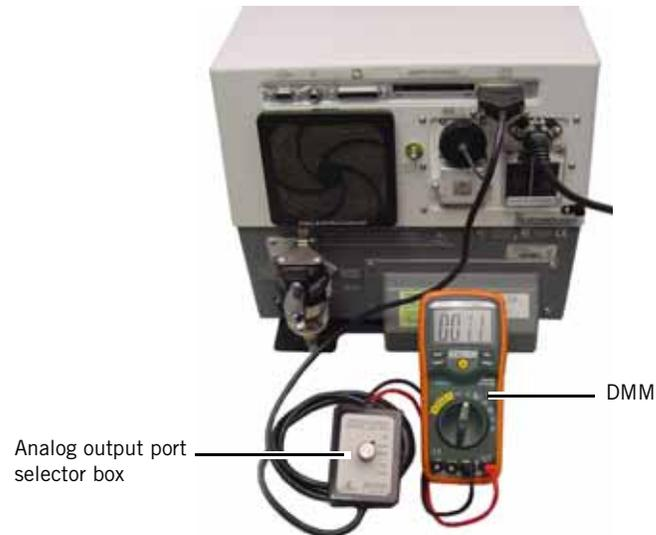

Figure 8-23: Analog Output Port Selector Box Setup
17. Using either a DMM and test leads, or an Analog Output Port Selector Box, connect a DMM and set to measure DC volts (Figure 8-23).